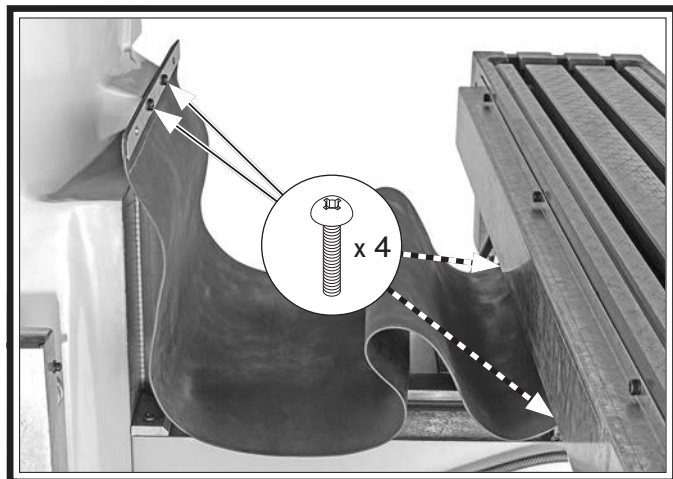

Figure 17. Rear way cover installed.
2. Remove (4) Phillips head screws (see **Figure 17**) from column and back of table, position rear way cover, and secure with removed screws.